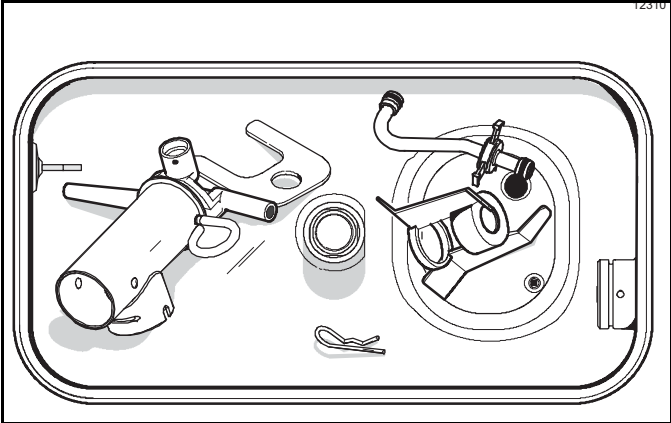

Figure 6-33
12. Lay the pump assembly, pump clip, feed tube, cotter pin, and agitator in the bottom of the mix hopper for sanitizing. (See Figure 6-33.)